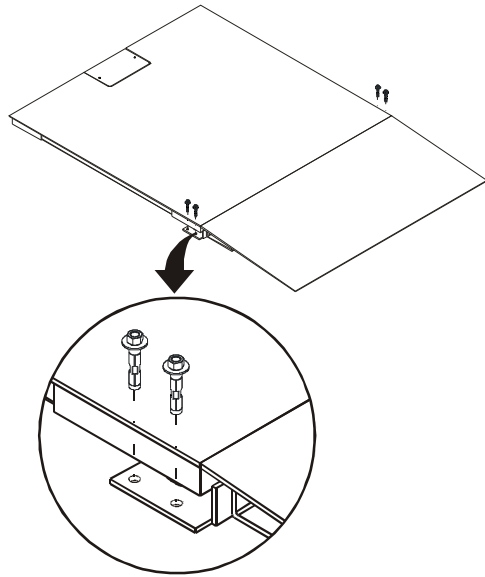

FIG. 26 INSTALLING ANCHORS FOR RAMP
- Step 1. Determine which side of the floor scale you want the access ramp to be placed. Consider the location of the summing junction box access plate. It cannot be covered by the access ramp. (See Fig. 26) Each carbon steel ramp accessory comes with two integral foot retainer plates and four anchors.
washer already ON. (See Fig. 26)